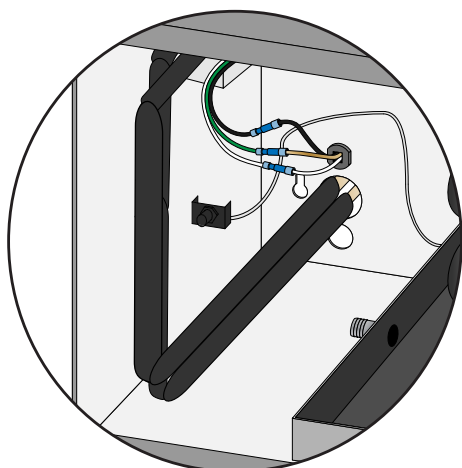

Figure 1
14. After the suction line has been insulated, connect the bottle probe. (See Figure 1.) Secure loose bottle probe cable with cable ties.
3. Place bottle probe securely into bottle as seen in Figure 1.
5. To ensure a consistent temperature, place bottle probe approximately three (3) feet away from the air output and not in the flow of the air.